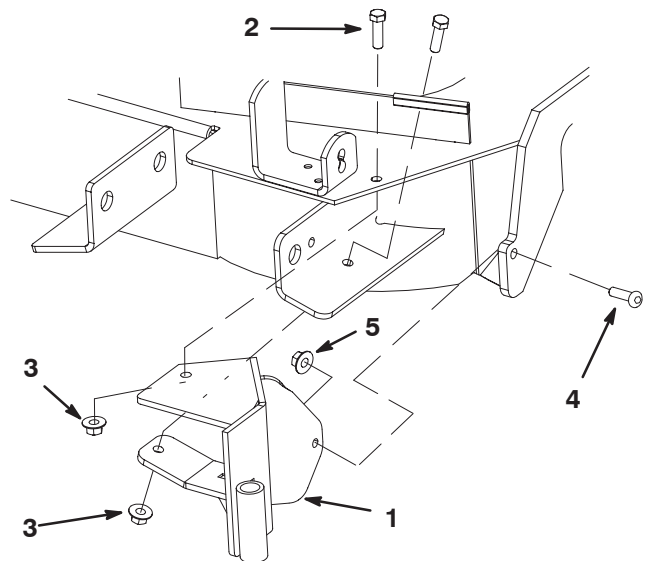

Figure 2
1. Install the rear hinge bracket using 2 bolts (5/16 x 1 inch) and 2 flange nuts (5/16 inch) (Fig. 2). Do not tighten at this time.
2. Install a hex socket screw (3/8 x 1-1/4 inch) into the deck and roller bracket (Fig. 2). Secure the screw with a flange nut (3/8 inch).